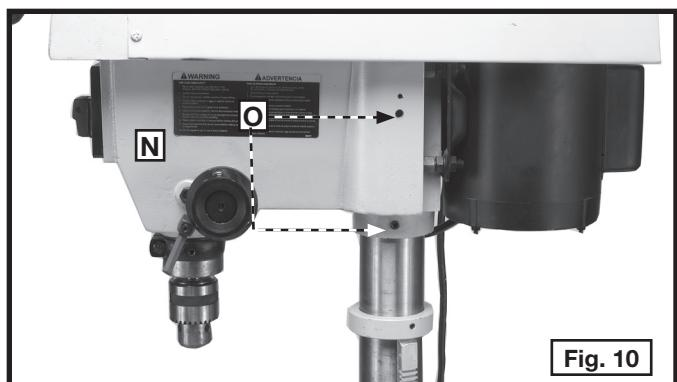
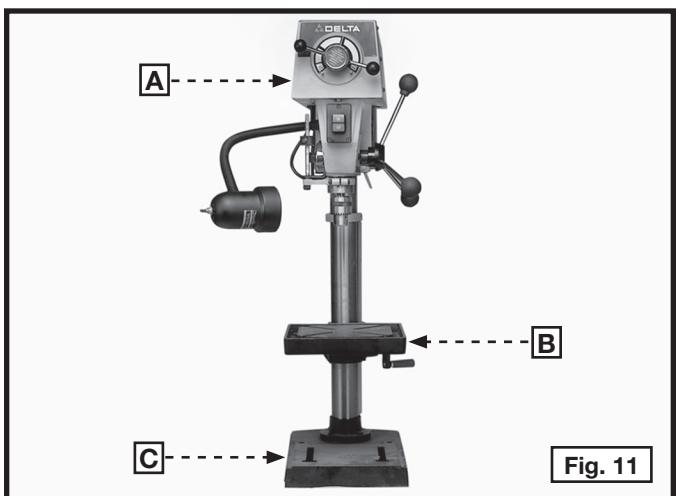

Fig. 10
Fig. 11
8. Place the drill press head (N) Fig. 10 on the column as far as it will go.
9. Align the head (A) Fig. 11 with the table (B) and the base (C). Tighten the two head-locking screws (O) Fig. 10 with the supplied hex wrench.